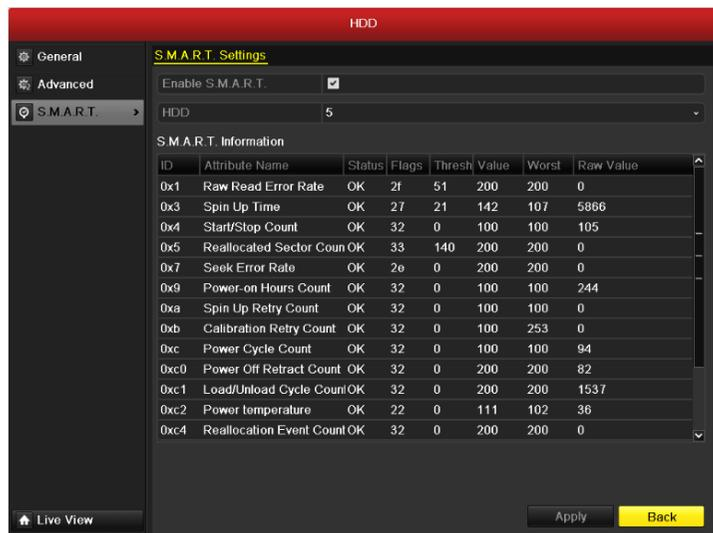

Figure 13.22 S.M.A.R.T Settings Interface
3. Select the HDD to view its S.M.A.R.T information list, as shown in Figure 13.22.